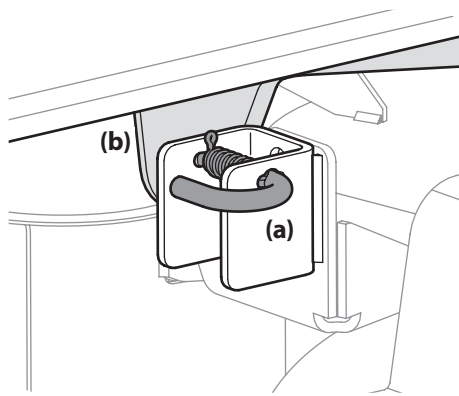

Figure 4-13
7. Locate the LH and RH deck release pins (a) on each side of the deck. Pull the deck release pins (a) outward and release the deck from the LH and RH deck lift arms (b). See Figure 4-13.
4. Pull the deck release pins outward and maneuver the deck as necessary to align the holes in the deck lift arms with the pins. Refer to Figure 4-13.